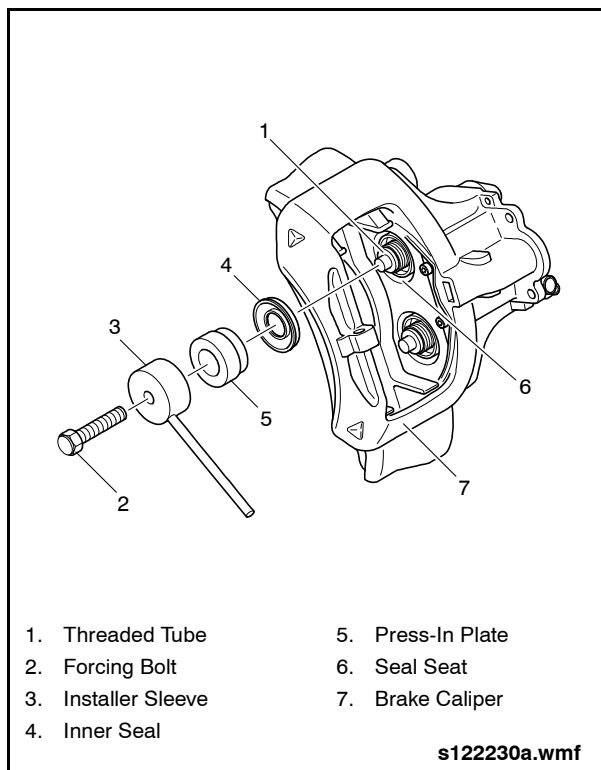

Fig. 6: Installing Inner Seal
2. Thread the long forcing bolt into the installer sleeve (Item 82 from special tools list). See "Fig. 6: Installing Inner Seal" on page 7.